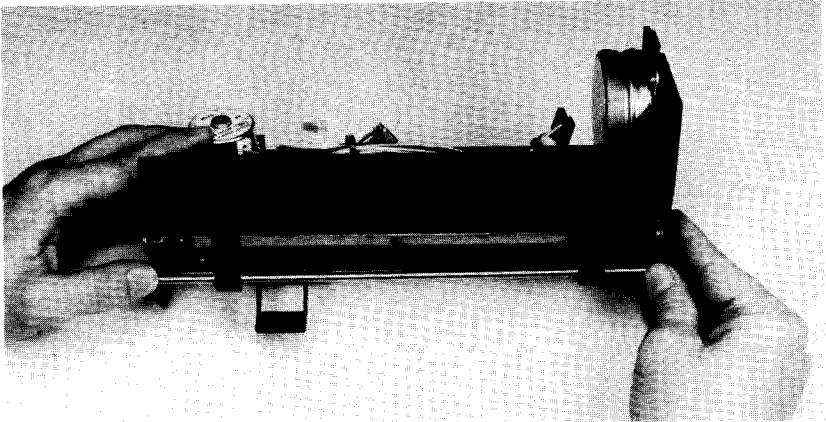

Figure 6-3. Bail Arm Adjustment, Left Side
2. Once the right side is adjusted properly, apply downward pressure on the right side of the bail arm assembly and lift the left side of the bail, as shown in Figure 6-3. The left pinch roller should have the same amount of play. If not, use the same technique outlined above to make the proper adjustment.